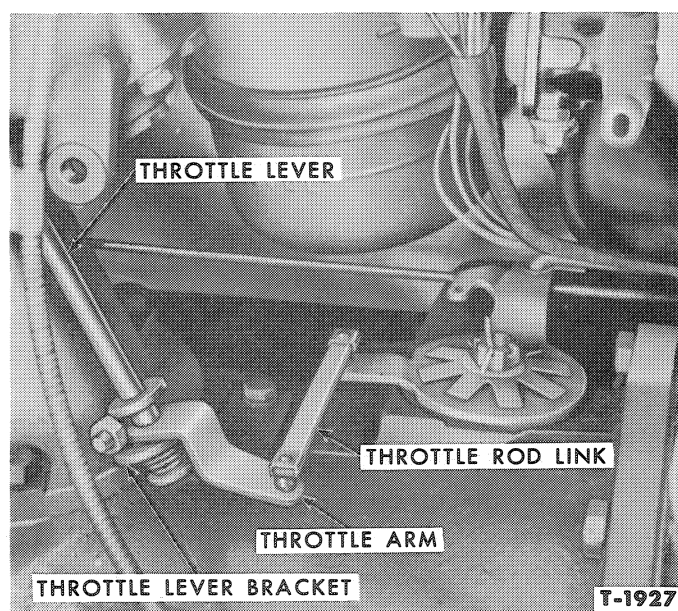

Figure 15—Throttle Linkage Installed
4. Disconnect the throttle rod link from the bell crank and remove the two bolts which secure the throttle lever bracket to the transmission, Figure 15.